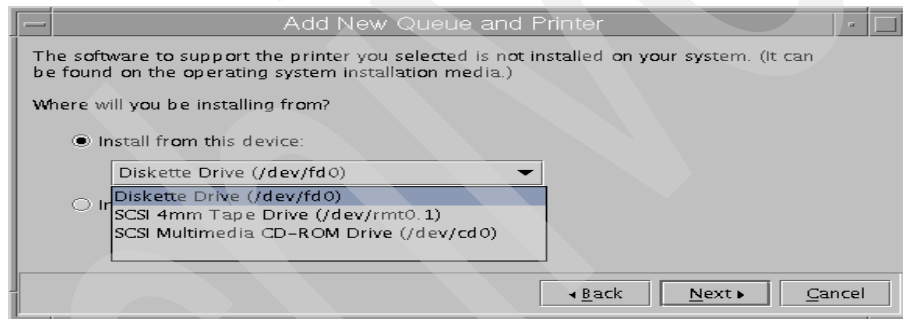

Figure 29. Selecting a installation media
8. The next step is to select installation media. You can install printer devices using floppy disks, tapes, CD-ROM, or by specifying any directories which contain this image. Normally, this software will be on the AIX 5L installation media. In this example, select CD-ROM drive and click **Next**, as shown in Figure 29. The printer devices will actually be installed at this time.